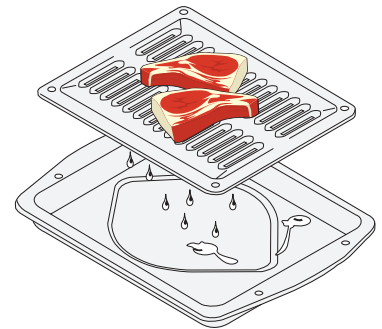

Fig.1 (some models)
**Speed Bake™ Cooking System** uses a fan to circulate the oven's heat uniformly and continuously around the oven. This improved heat distribution allows for fast, even cooking and browning results. It also gives better baking results when using two racks at the same time (See Fig. 1).
5. Place the insert on the broil pan (if equipped), then place the food on the insert (if equipped; See Fig. 1).